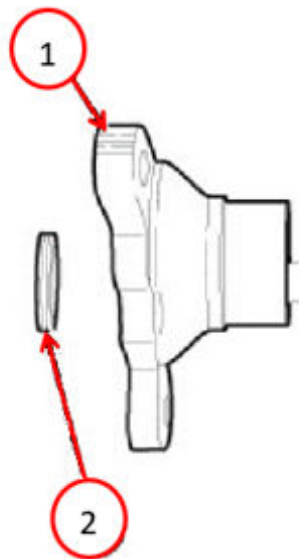

Fig. 54
80. For 2WD vehicles, install the output shaft flange Fig. 54.